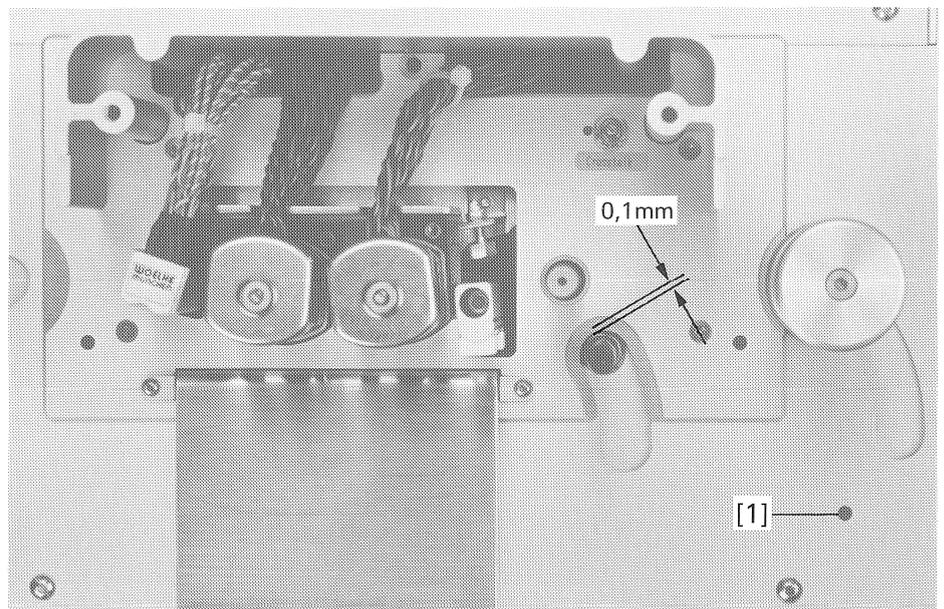

Fig. 24
- Introduce a 3 mm hexagon-socket-screw key into the hole [1] and turn the pinch roller assembly to the clockwise stop position (play position), see Fig. 24.